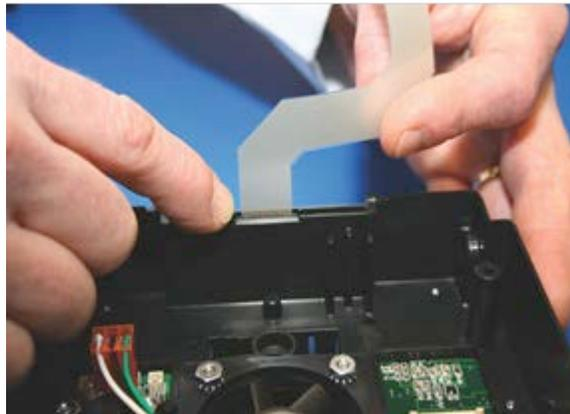

Figure 5.43
9. Route the flex circuit from control panel keypad notched area of control panel enclosure section. (Figure 5.43)